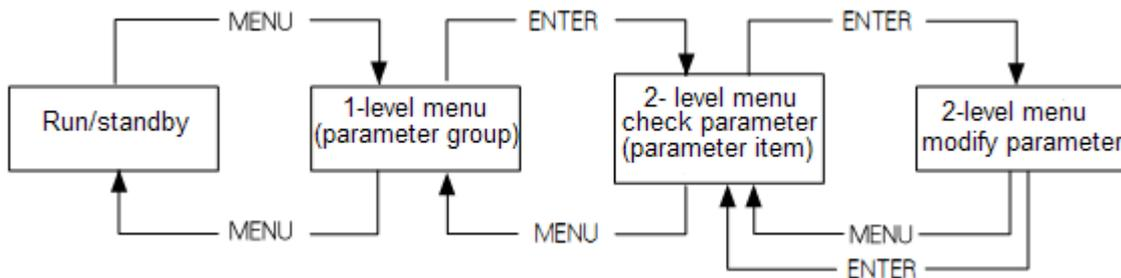

Figure 3-19 2-level menu operation flow chart
The three-level menu: menu item (1-level menu), parameter tem (2-level menu) and parameter setting (3-level menu). The operation process is shown in Figure 3-19.